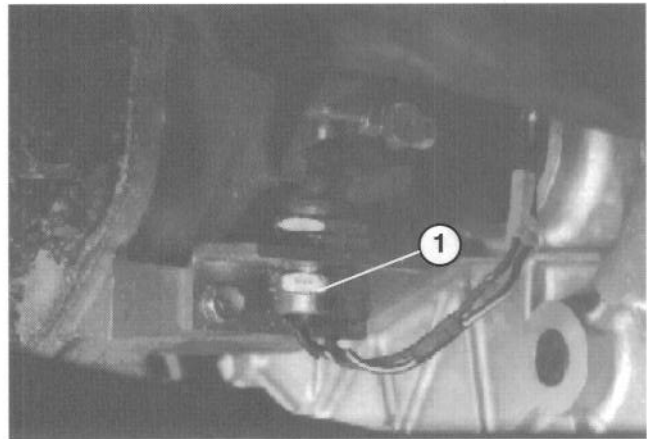

Figure 43
7. Recheck clutch safety switch adjustment (Fig. 43). Engine must not crank unless clutch pedal is $1.25" \pm .12"$ from floor. If an adjustment is required, loosen switch jam nuts and adjust up or down.